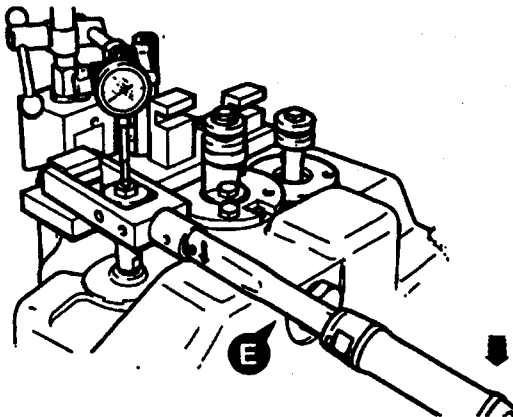

Figure 56.
2. Install the torque handle E as shown in Figure 56. Make sure that the torque direction arrow is pointing down, push down on the handle applying the torque of 22 lb-ft. (30 Nm). Turn the shaft being checked to seat the bearings.